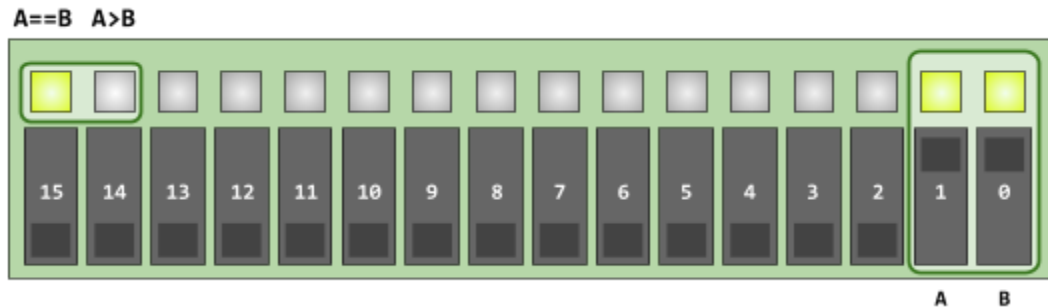

Figure 1. Input/Output Configuration for Part 1
- a. To test our module implementation, we will instantiate each module inside of `lab03_top.sv` with the connections illustrated in Figure 1. Namely, we will use `SW[1]` for input A and `SW[0]` for input B. We will display the result of G on `LED[14]`, and E on `LED[15]`.